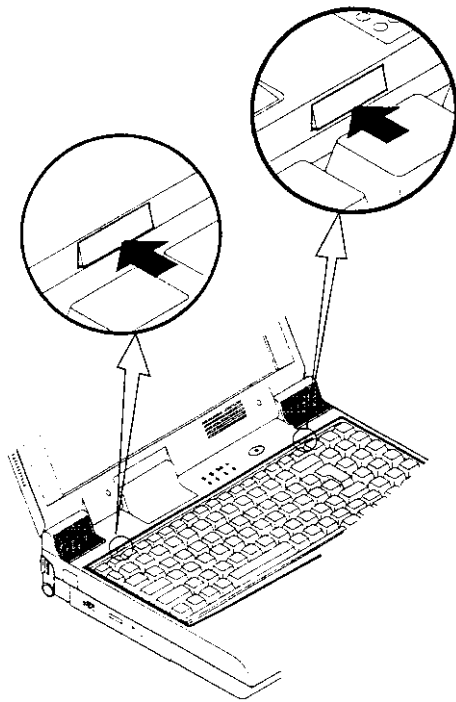

Figure 2-3
2. Press the two keyboard latches so that the keyboard can be elevated from its normal position (Figure 2-3).